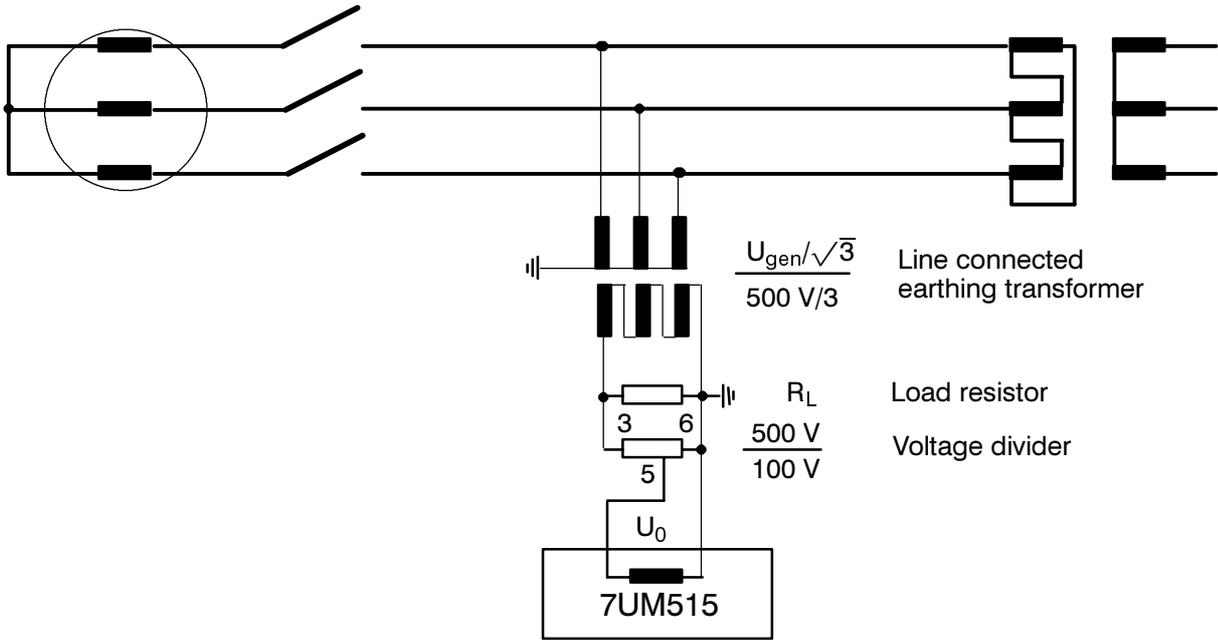

Figure 5.4 Connections for earth fault protection U_0 – example
A connection example is shown in Figure 5.4 (line connected earthing transformer). The illustrations also show the load resistor R_B which provides a sufficiently high signal-to-noise ratio for the measured value. Further instructions are contained in the pamphlet "Planning Machine Protection Systems", Order No. E50400–U0089–U412–A1–7600.
- Are connections and ratios of the earthing transformer and voltage divider from displacement voltage for earth fault protection U_0 correct (interconnection example Figure 5.4)?